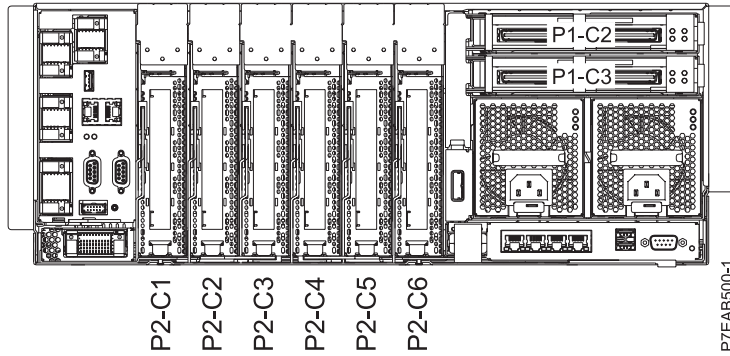

Figure 1. Rear view of the system with location codes
- The GX adapters are installed in GX++ slot P1-C2 or P1-C3, which is located on the system backplane. See Figure 1 on page 5 for the location of the GX adapter slots in the system.
- Feature code (FC) 1808 (GX++ 12X DDR Dual-port IB Adapter) is supported for the 8412-EAD, 9117-MMB, 9117-MMC, 9117-MMD, 9179-MHB, 9179-MHC, or 9179-MHD system.